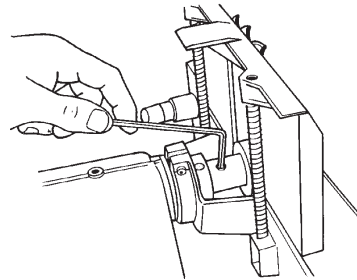

Figure C-64
- 80. Fit the lower saw guard's clamp on the spindle quill. Line up the arbor set screw with the spindle knob's set screw (where the spindle flat is located). Use a 5/32" Allen wrench to tighten the arbor set screw, as shown in Figure C-64.